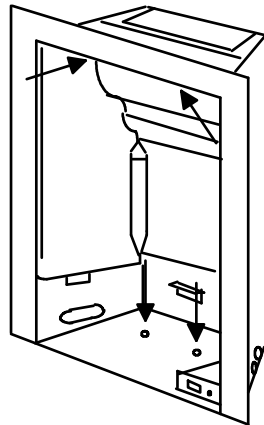

Figure 55
1. Place the firebox centrally within the opening and push it back until the sealing strip abuts the face of the fire surround. Mark the two box fixing holes, located on the base of the firebox, onto the hearth (see **Figure 55**).
6. Secure the top of the firebox by tightening the two screws on the roof of the firebox against the Freedom Surround. (See **Figure 55**).